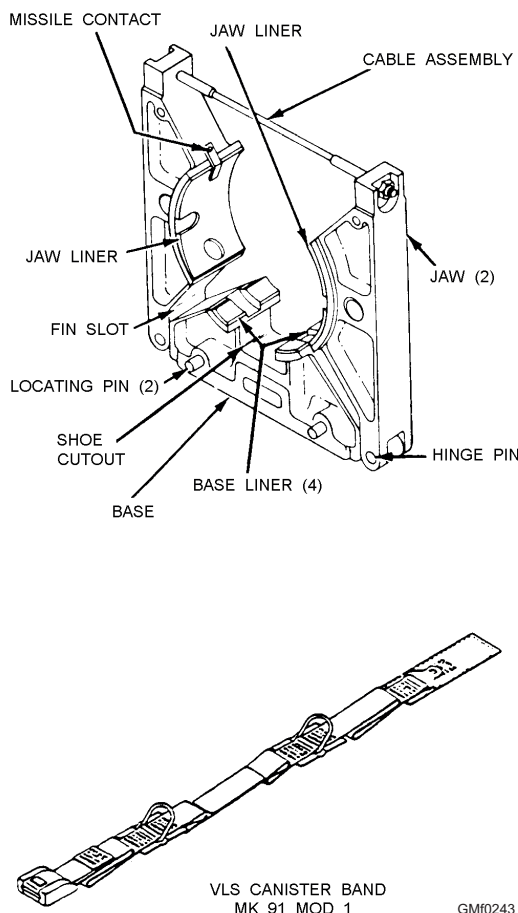

Figure 2-43.—Mk 79 Mod 1 missile handling band and Mk 91 Mod 1 VLS canister handling band.
HANDLING BANDS.—The Mk 79 Mod 1 missile handling band is used on all Standard missiles (fig. 2-43). The band has a base, two hinged jaws, and a
The VLS canister band Mk 91 Mod 1 (see fig. 2-43) is normally kept onboard destroyer tenders (AD), submarine tenders (AS), and VLS canister supply barge. It is used to steady the canister during strikdown when strikdown is done with the AD/AS or supply barge shipboard crane.